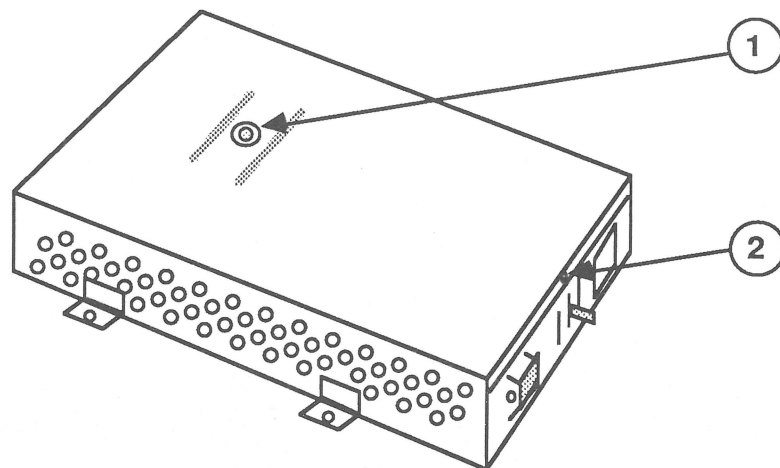

FIGURE 27
6. Remove the top screw and washer (Figure 27, #1) and the end screw (Figure 27, #2) from the power supply cover. Lift the cover free.
5. Replace the top screw and washer (Figure 27, #1) and the end screw (Figure 27, #2) that secure the metal cover to the power supply.